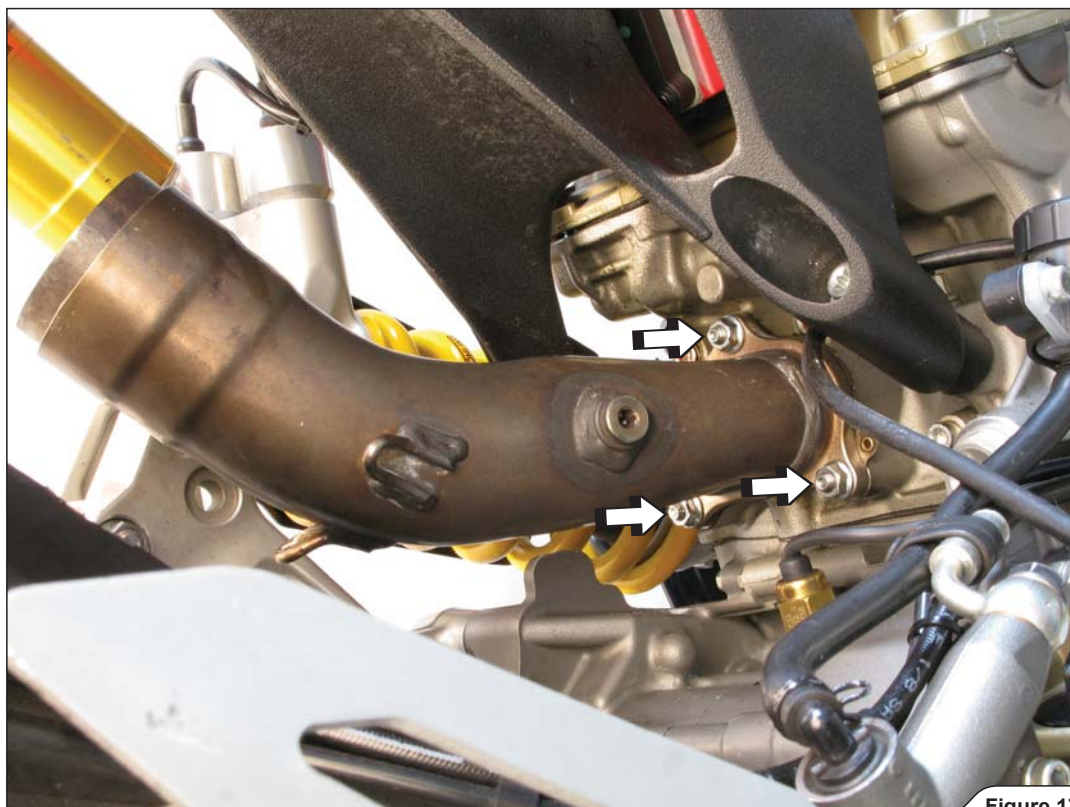

Figure 17
15. Unscrew the marked nuts and carefully remove both header pipes off the motorcycle (Figure 17, 18).